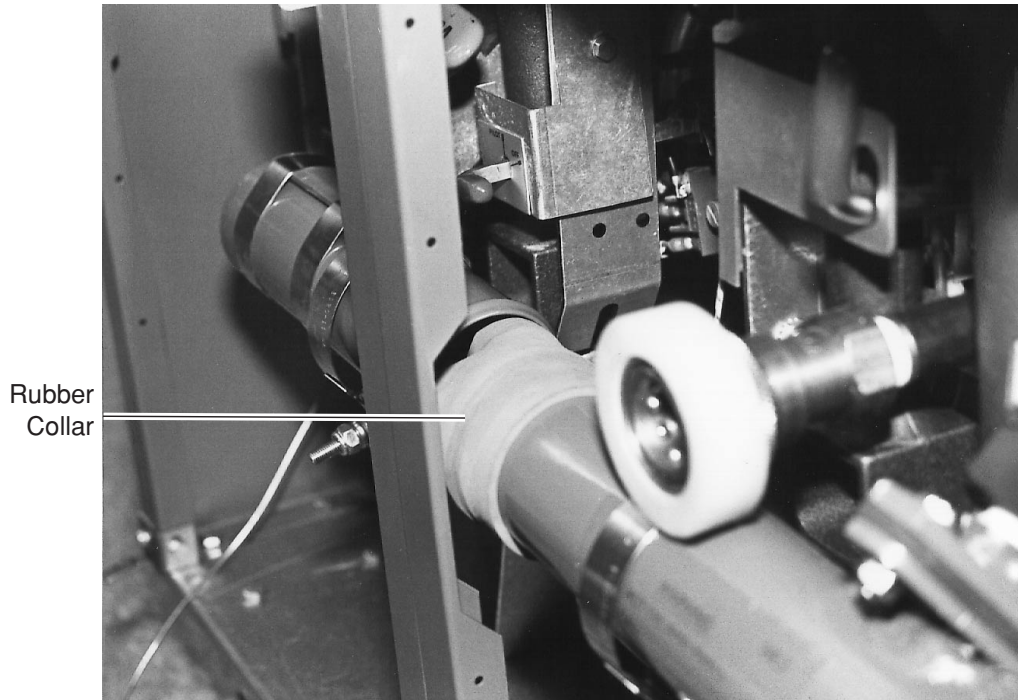

Fig. 45
4. Separate the discard tube by sliding the rubber collar down one side of the drain tube. (Fig. 45)